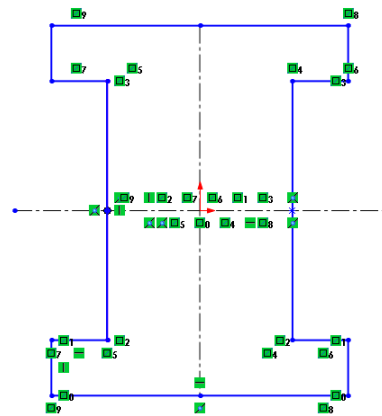

Figure 3-66 Sketch after mirroring sketched entities
- Mirror the entire sketch along the second mirror line, refer to Figure 3-66.
3. Choose the **Mirror Entities** tool from the **Sketch CommandManager**; the entire sketch is mirrored about the horizontal centerline. The sketch after mirroring the sketched entities is shown in Figure 3-66.